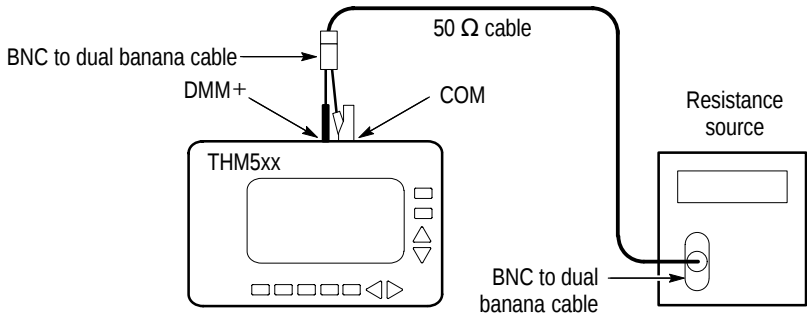

Figure 3: Resistance Accuracy Test Setup
- 1. Set the THM500 series instrument to **METER** mode displaying Ω . Connect the THM500 series instrument to the resistance source as shown in Figure 3.